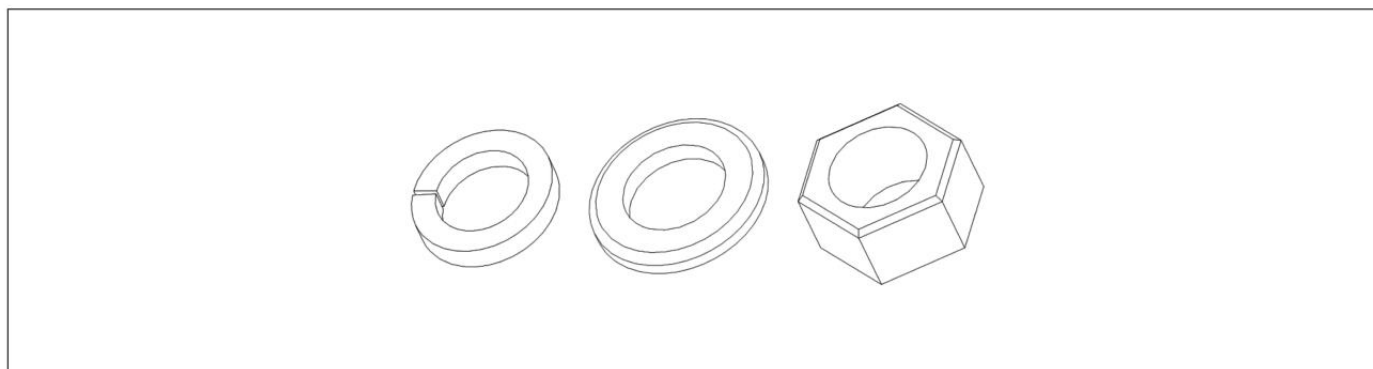

Figure3.1
1. Remove 4 sets of installation accessories (nuts, spring washers, flat washers) as shown in Figure 3.1; the installation bolts do not need to be removed. Place the 4 sets of accessories aside and ensure they are not lost.